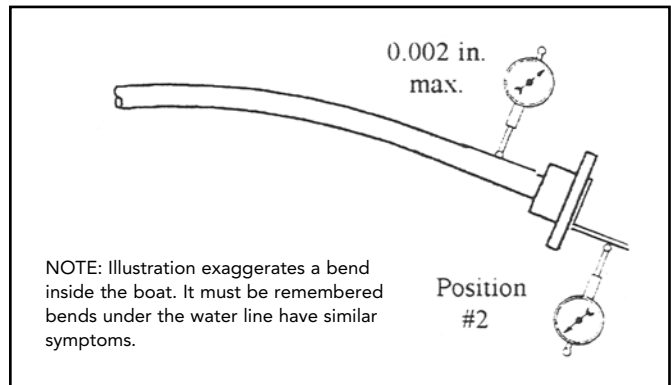

Figure 3. Bent Shaft (Exaggerated)
2. The shaft may be bent (figure 3). Place indicator in position "2" to determine coupler position relative to shaft.
Rotate shaft with a dial indicator held against its side (figure 3). Place indicator in position "2" to determine coupler position relative to shaft.